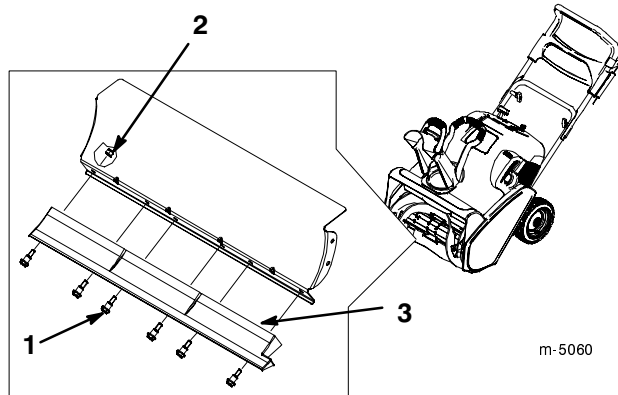

Figure 17
5. Remove the six bolts and locknuts that hold the scraper in place (Fig. 17).